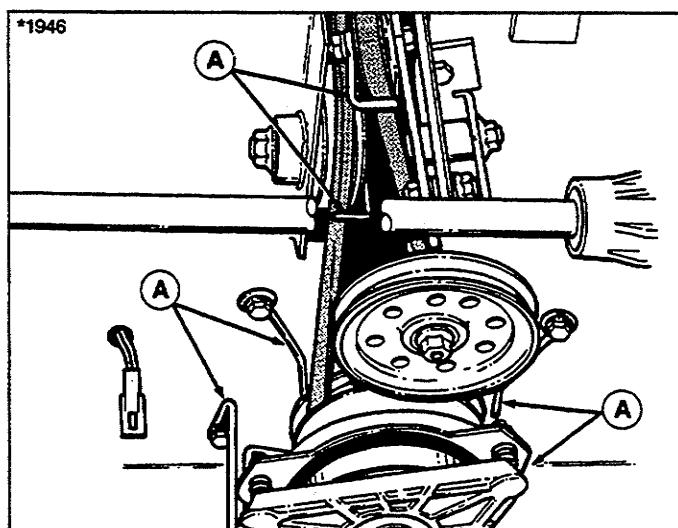

Figure 47. Belt Stop Locations
12. Release parking brake to check belt stop adjustment. There should be $1/16" - 1/8"$ clearance between belt and belt stops. Five belt stops are shown in figure 47.